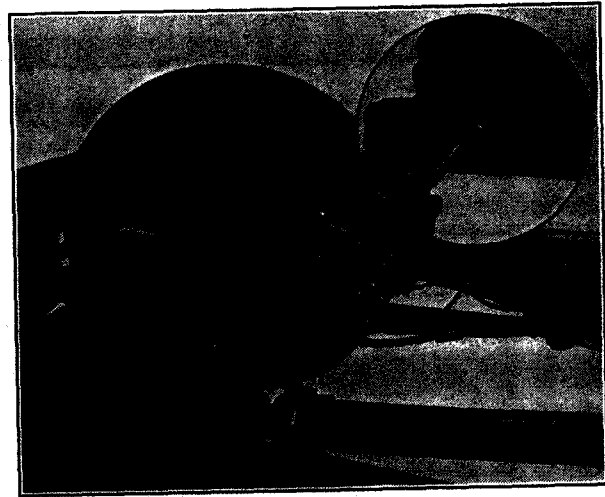

Fig. 24. The rear shock absorbers are equipped with "clicker" control permitting manual adjustment to give the desired ride
All service work on the springs, shock absorbers and the stabilizer remain practically unchanged, except the adjustment of the rear shock absorbers in the series 70, 75, 80 and 85 cars, and is performed in the same manner as on the previous models. The adjustment of the rear shock absorber is made by pushing up on the locking cap and turning the operating shaft with a screw driver as illustrated in Fig. 24, to give the desired ride. There are three positions of this shaft—soft (S), medium (M), and firm (F). It is important that both rear shock ab-